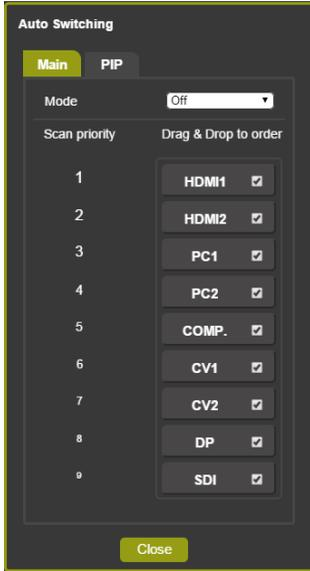

Figure 49: The Routing & Scaling Page – Auto Switching Window (Main Tab)
Click the Auto Switching button to open the Auto Switching window (see Figure 49). The Auto Switching window lets you set the Main and PiP scanning mode separately to:
When Scan mode is activated, the system scans the inputs from the highest to the lowest priority in search of a valid input signal for each the Main and PiP windows. The priority is ordered from the lowest input number (9) to the highest (1). For example, if PC 1 and HDMI 2 have a valid signal and auto switching is enabled, the **VP-771** will scan through the inputs and select the HDMI 2 which is higher in the priority list (see Figure 49). Once the signal is no longer valid on HDMI 2, the **VP-771** will scan for the next highest-priority valid signal.